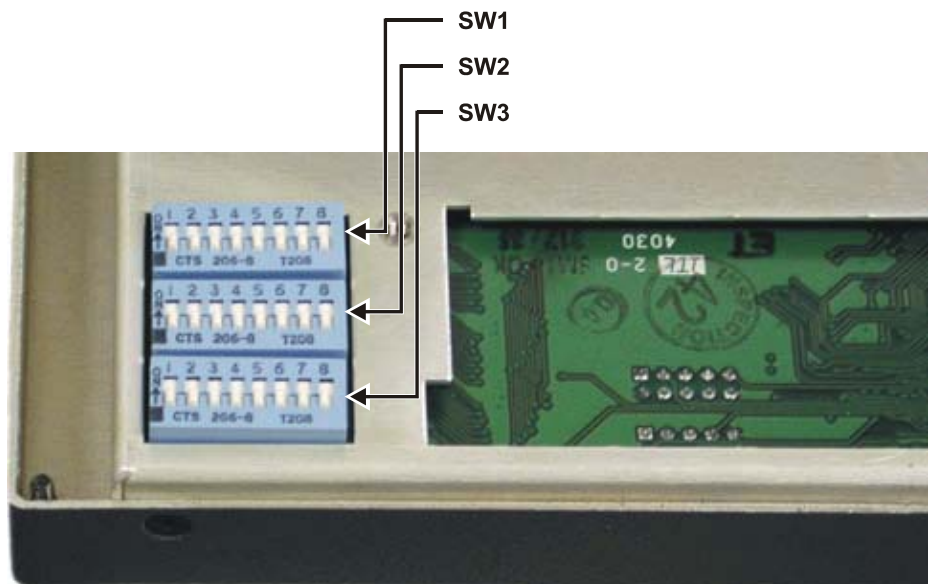

Figure 8. Panacea DIP Switch Locations
1. Remove the front panel from the Panacea frame and locate DIP switches SW1, SW2, and SW3 as shown in Figure 8.